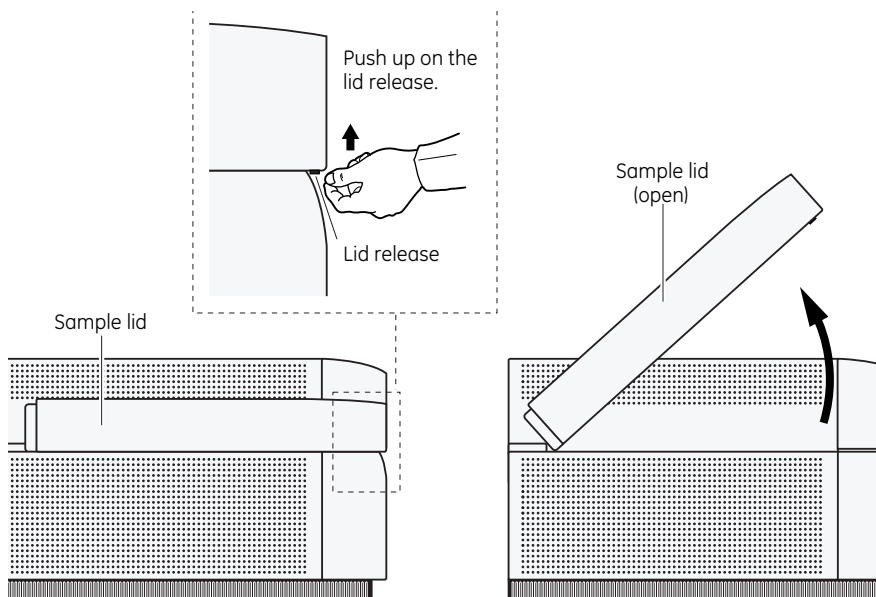

Fig 11-1. Releasing and opening the sample lid.
- 1 Push up on the lid release under the center front of the sample lid until the lid opens (fig 11-1)
- 1 If the sample lid is not already open, push up on the lid release under the center front of the lid until the lid opens (fig 11-1).